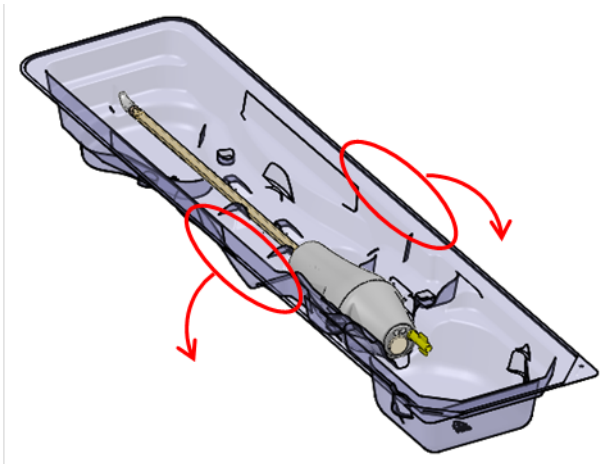

Figure 19. Releasing the UA from the packaging tray.
1. **MRI Technologist:** Using the fluid circuit (FC) tab of the PSIB display (or the FC information box of the Setup workspace in TDC), flow water into the UA by clicking **ON**.
5. **MRI Technologist:** While holding the UA packaging tray by the long edges of its perimeter, flex the tray to release the UA from its snap features (Figure 19).